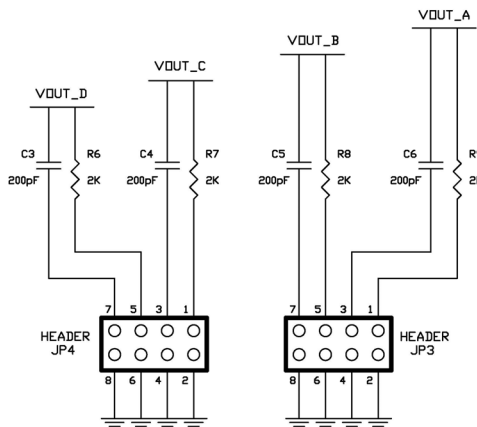

### Figure 4: J6 Output Header
5. The Analog Output signals of each channel can be seen DC coupled at header J6. See the header schematic of *Figure 4* for details.